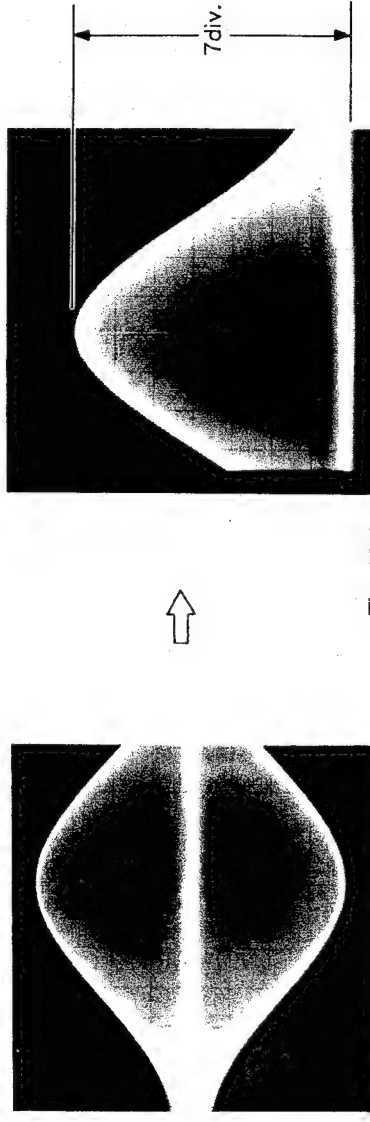

Fig. 19-1.
3. Make the V/div of oscilloscope into VARIABLE, and match the upper section of waveform to 7div as shown in Fig. 19-1.